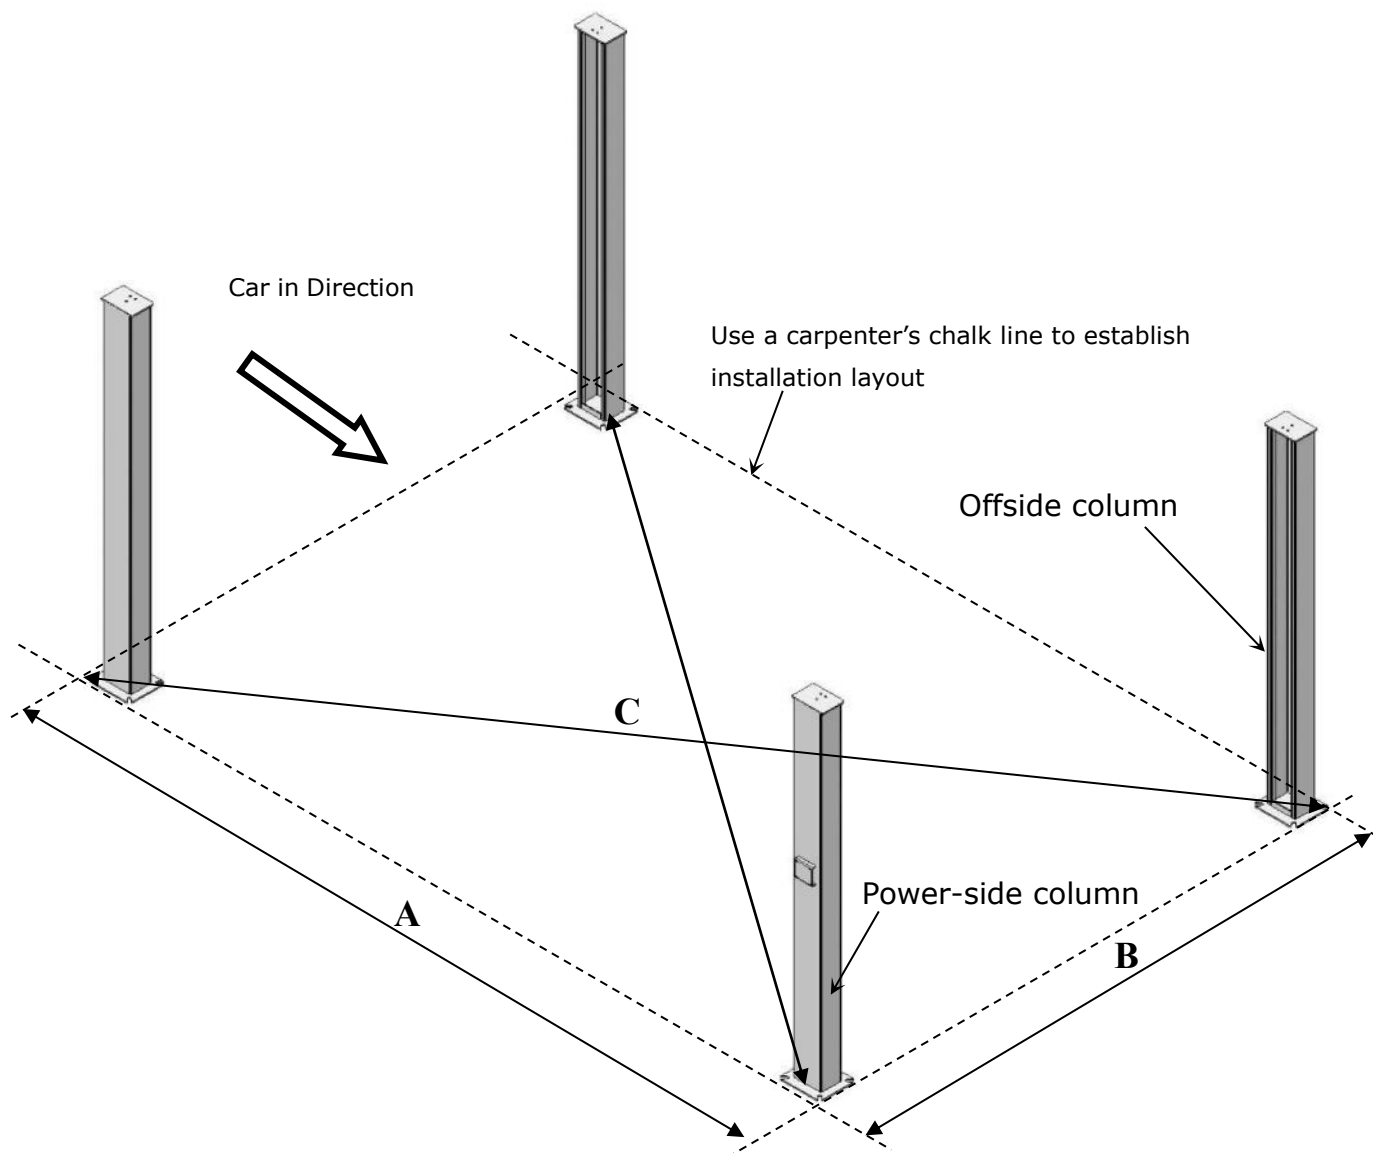

Fig. 11
C. Use a carpenter's chalk line to establish installation layout , make sure the size is right and base is flat (see Fig. 11).